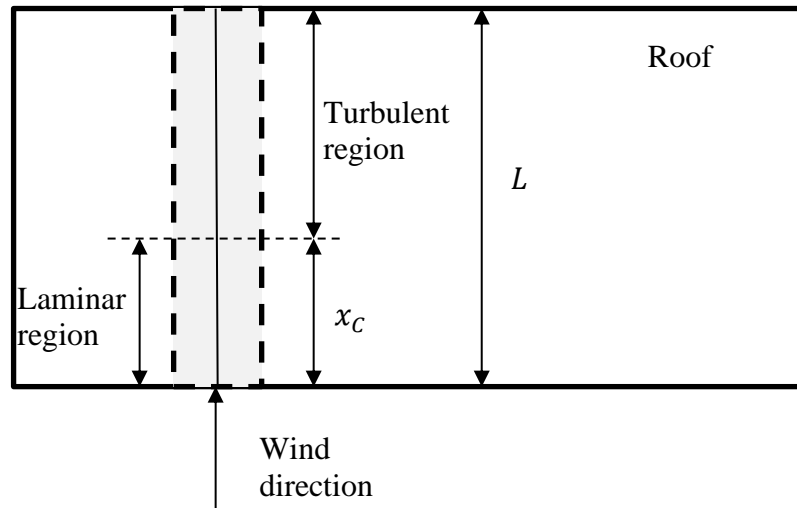

Figure Q3
3. The heat loss from the roof due to convection is determined by two correlations, depending on whether the flow on the roof is entirely laminar, or has become turbulent. These correlations are given in equations Q3a and Q3b. There are two definitions of the Reynolds number: one based on the length of the entire roof Re_L and one based on the distance to the transition to turbulence $Re_{x_c} = \frac{Ux_c}{\nu}$. The situation is summarised in Figure Q3.